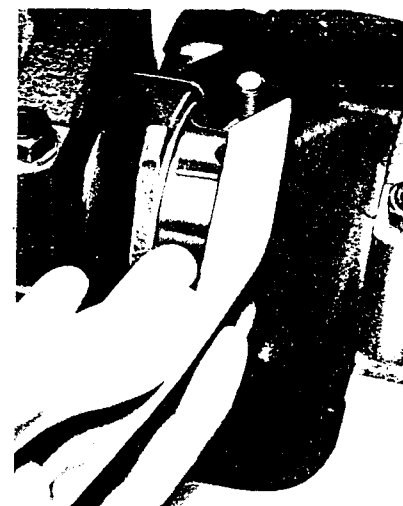

Figure 8-1-41
6. Remove the bearing cap and, without removing the gauging plastic, check its width at the widest point with the Plastigage scale (see Figure 8-1-41).